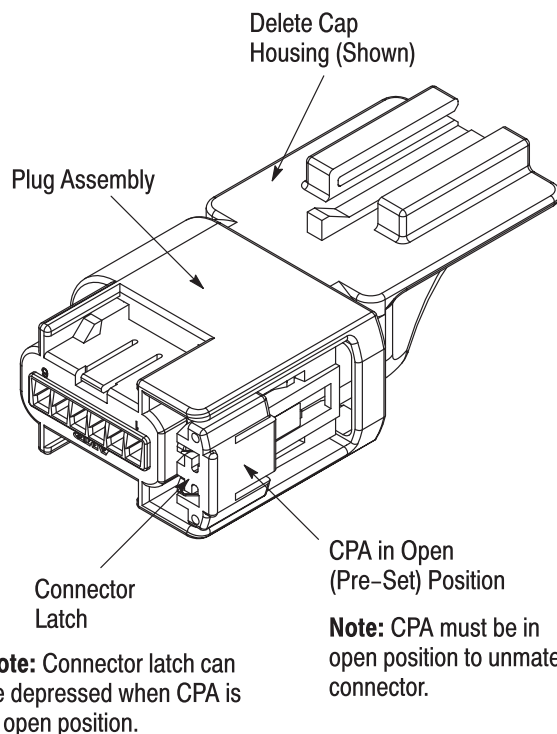

Figure 4
1. Move the CPA into the open (pre-set) position. Refer to Figure 4.